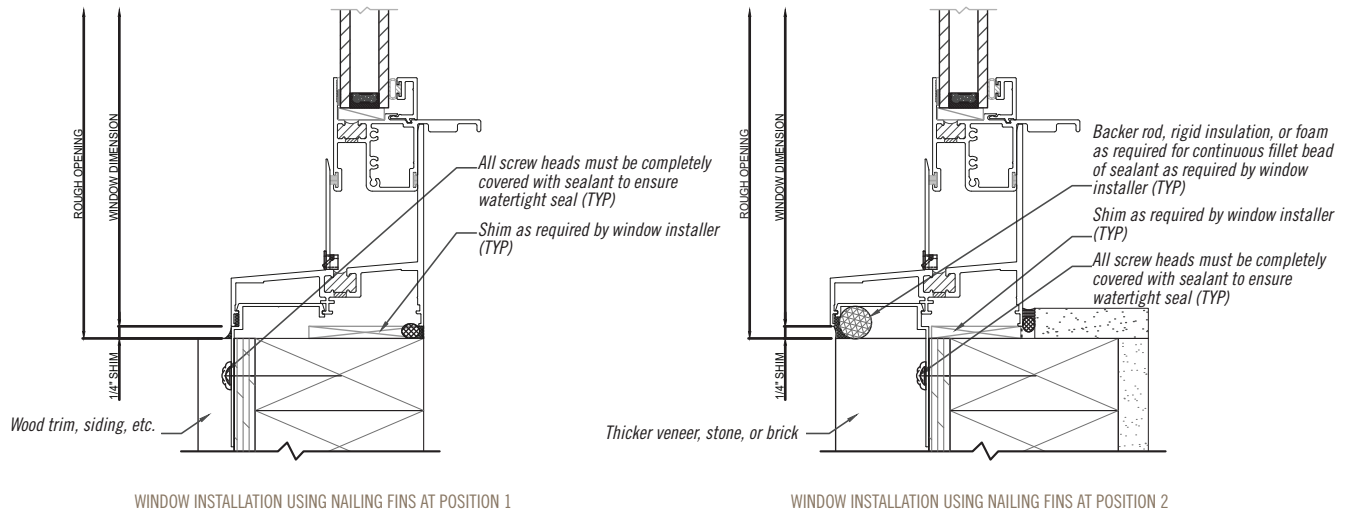

FIGURE 1.0
- Installation instructions are intended to be a reasonable guideline for the installation of window units and trims, based on common conditions. Conditions on a project vary, and deviations and/or special instructions should be defined in the shop drawings. See *Figure 1.0* for installation options.
- Assemble the loose packed nailing fins and snap them into the desired position. See *Figure 1.0*.